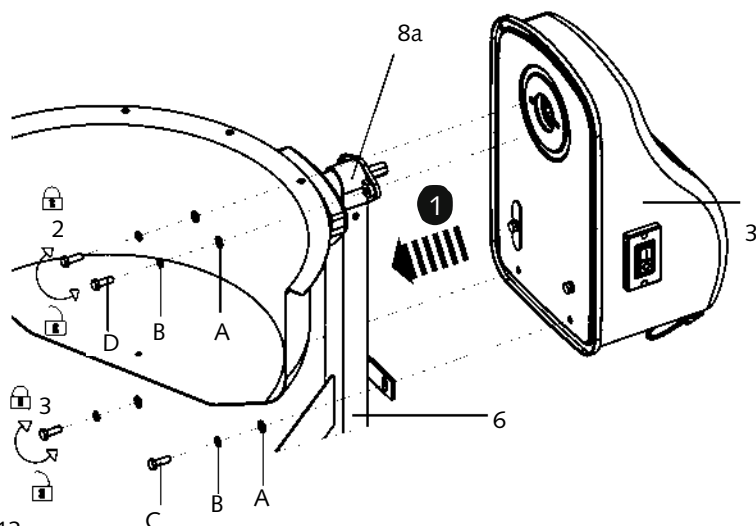

Fig. 13
1. Align and assemble the motor unit onto the drum arm (8) / stand (6) (Fig. 13).
2. Secure the connection with bolts (C, D), spring washers (B) and washers (A).